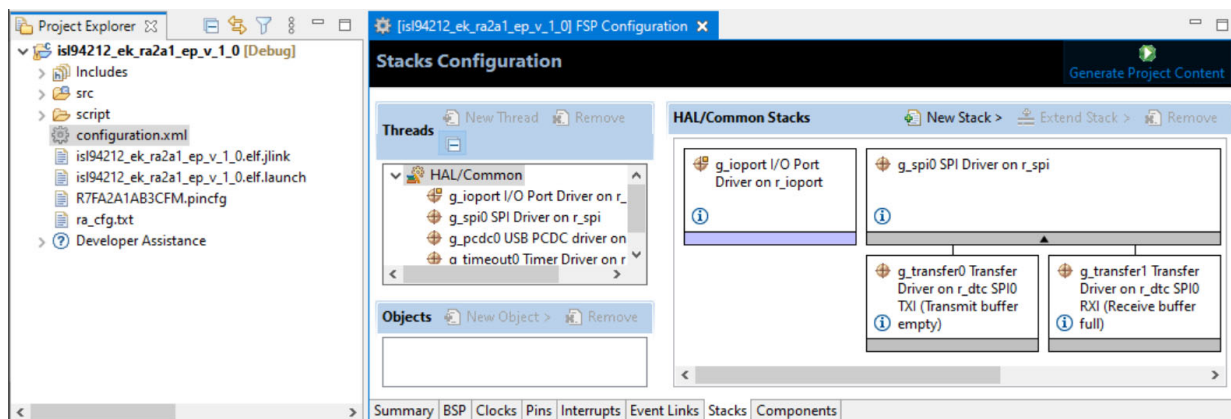

Figure 14. Generate Additional Project Files
- The project is now imported into the e2 studio workspace. Figure 14 shows the imported project structure. Double-click on **configuration.xml** and press **Generate Project Content** to generate the additional hardware specific project files.